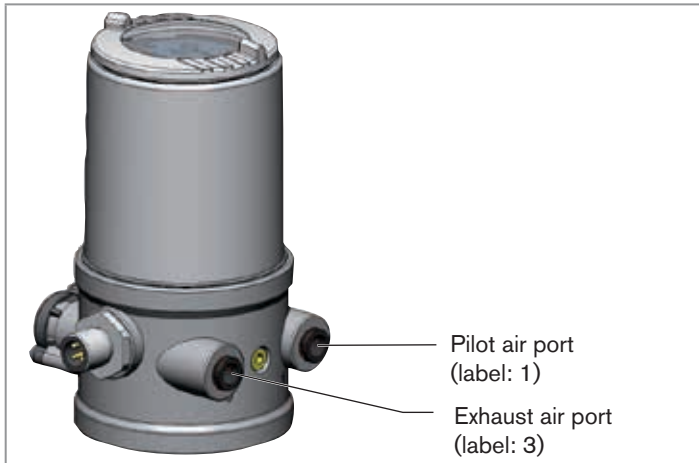

Fig. 10: Pneumatic connection
- Connect the control medium to the pilot air port (1) (3 – 7 bar; instrument air, free of oil, water and dust).
- Attach the exhaust airline or a silencer to the exhaust air port (3) (see “Fig. 10: Pneumatic connection”).